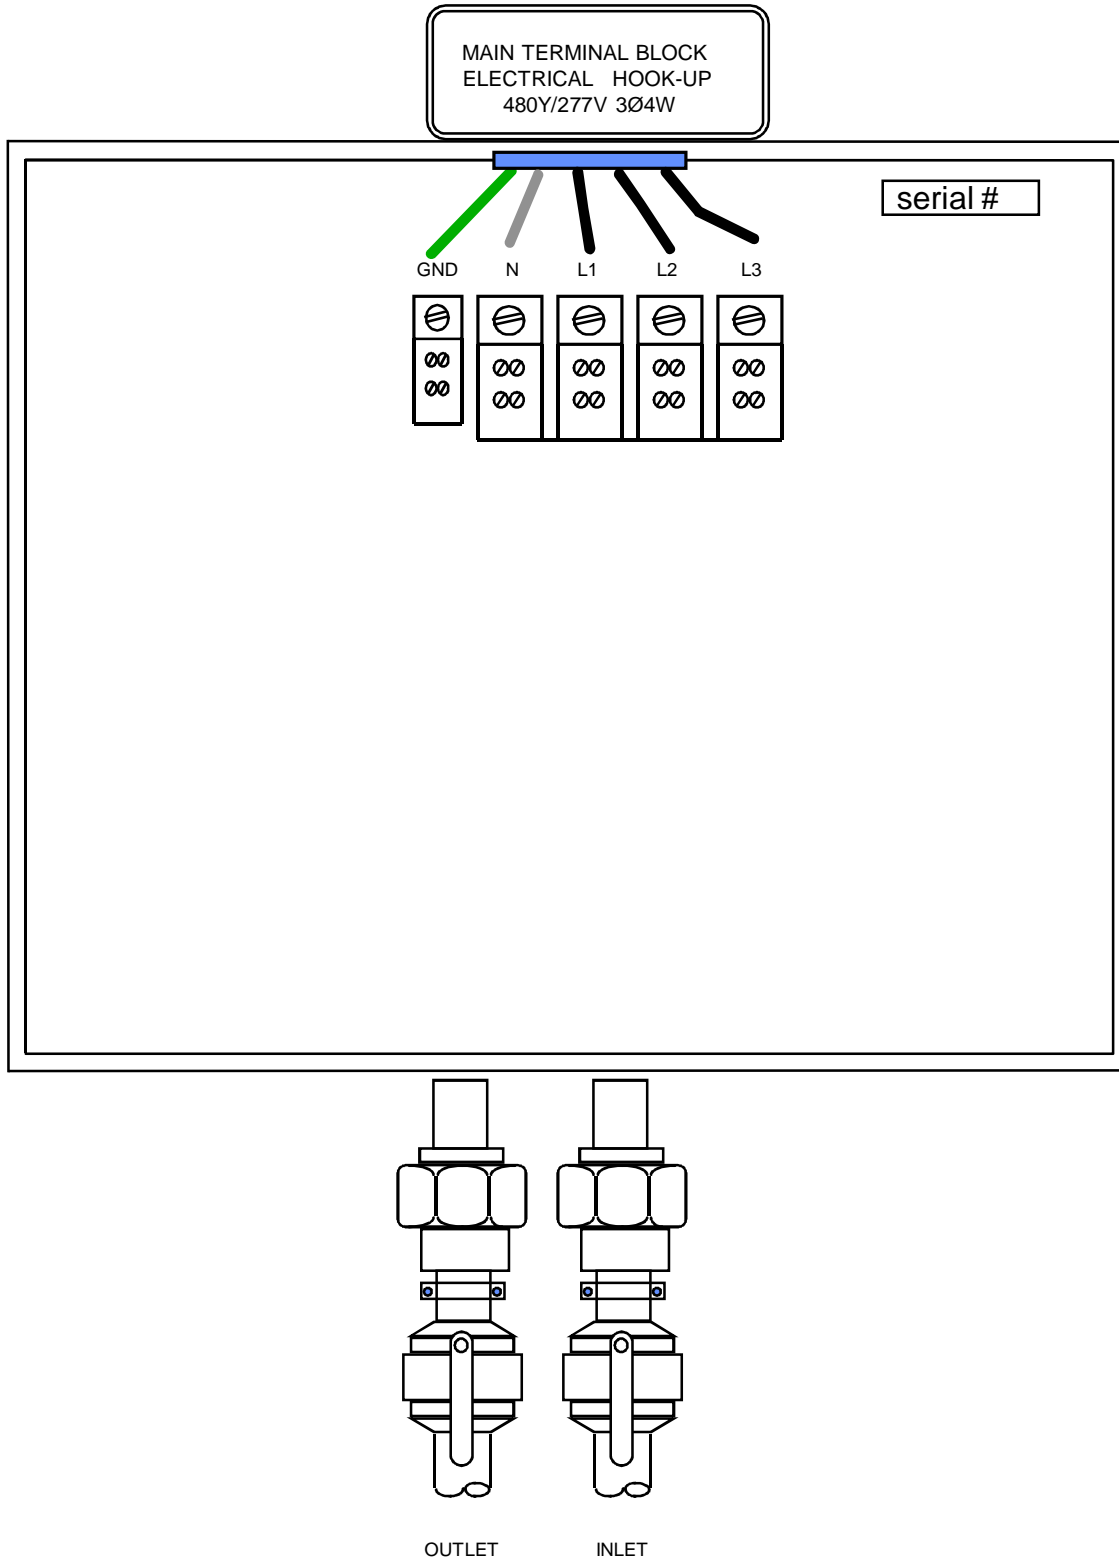

Figure 1A
- 3) Install isolating valves (full flow ball valve type) on both inlet and outlet pipes. This allows unit to be isolated for maintenance purposes. (see Fig. 1A)